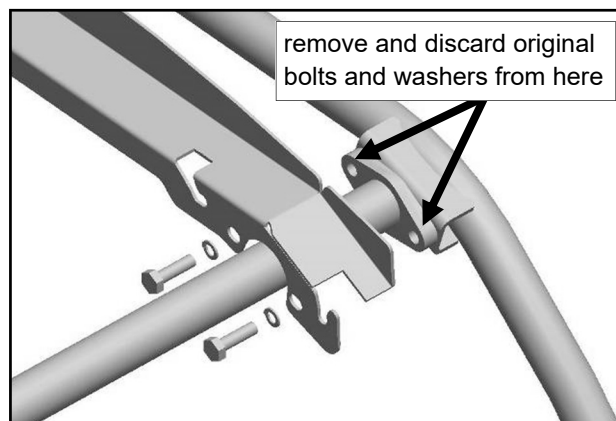

Fig. 1.2 (view of inside front corner of driver's side)
1.2 Remove and **discard** the four (4) original equipment bolts and washers from the cross members on the driver's side as shown in figure 1.2. New bolts and lock washers are provided. Loosen the four (4) bolts securing the passenger side, but leave them installed at this time. Install the upper mount oriented as shown in figure 1.2. Install the new bolts (M10 x 1.25 x 35mm long) and split spring washers (M10) into the original equipment factory installed weldnuts (not shown). Use caution to avoid cross threading the weldnuts. Start thread engagement by hand. Leave bolts loose.